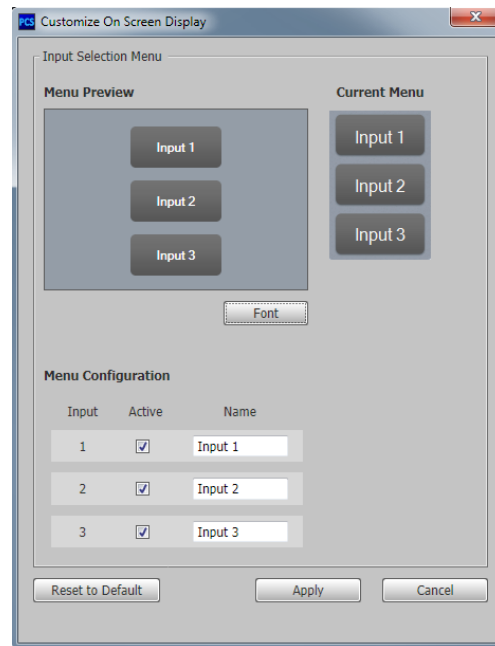

Figure 51. Customize OSD Window – Input Selection Menu
1. Click and drag the drag points of the sample image to resize the image within the designated space (defined by the black area in figure 51).
2. Click anywhere inside the sample image (see the blue rectangle with a circle inside in figure 51) and drag it anywhere within the designated space to reposition the image.